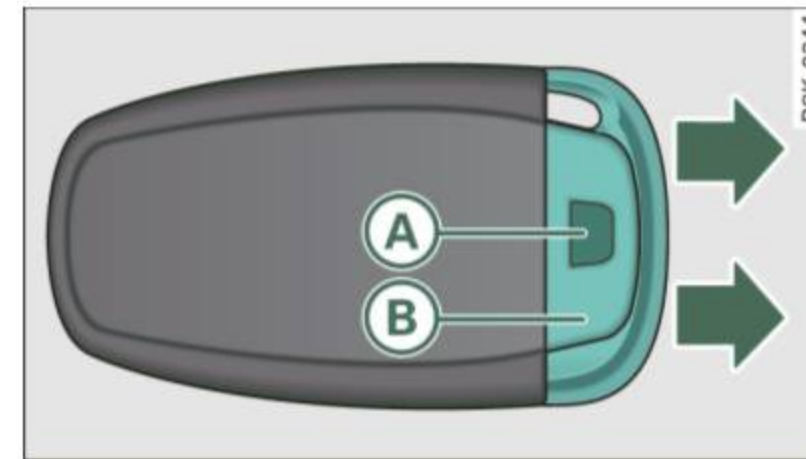

Fig. 29 Remote master key: Removing the mechanical key
- Press the release button **(A)** ⇒ fig. 29. ▶